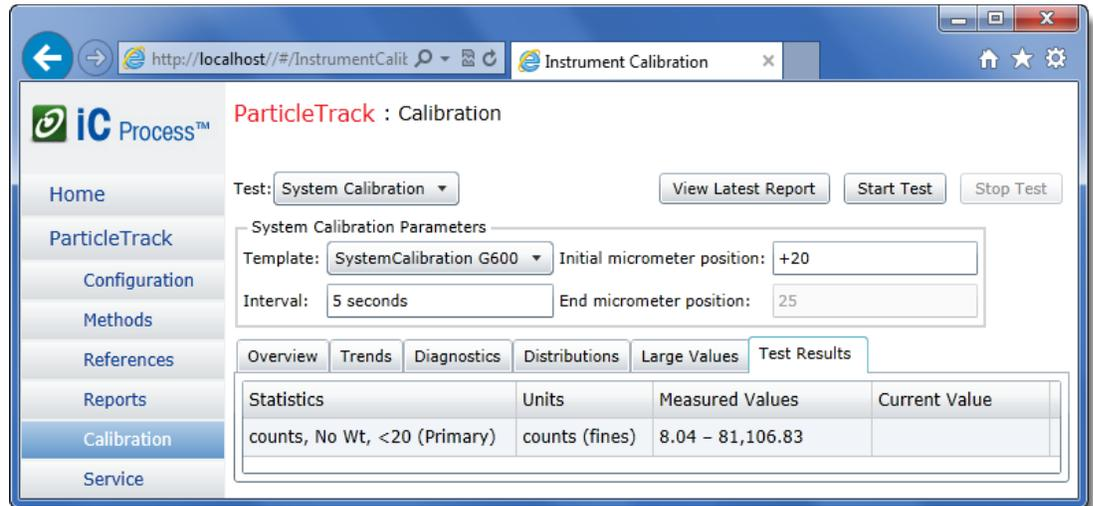

Figure 5—System Calibration (Entering end micrometer position)
- If a step change increase is clearly observed in the trend value, record the current micrometer position in the **End micrometer position** text box (**Figure 5**).
6. Update the **End micrometer position** (**Figure 5**).